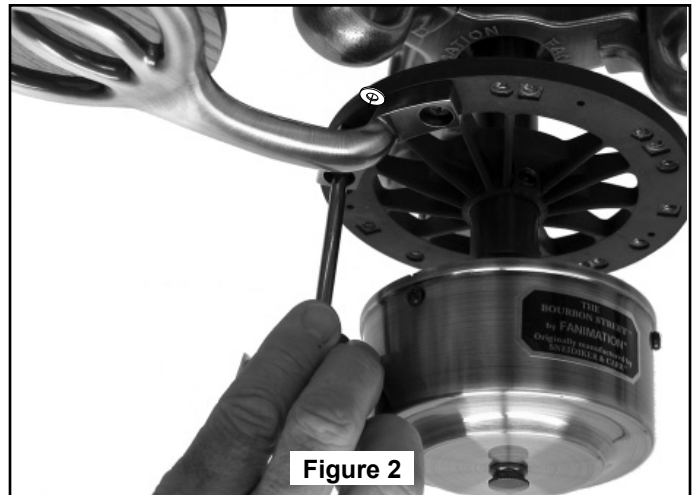

Figure 2
2. Then mount the assembled blade/blade holder onto the flywheel, secure with flywheel screws. (Figure 2)